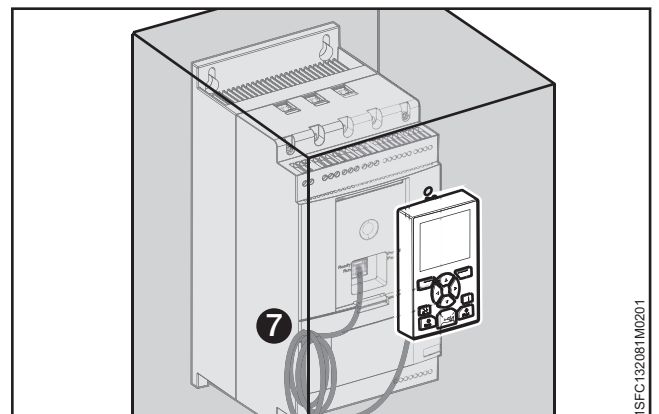

Figure 4.12
5. Make sure that the network cable is properly inserted into the 2 ports. Prevent the rest of the cable to get caught between the door, see ❼ in **Figure 4.12**. Close the door of the enclosure and set the operation voltage switch to ON. Make sure that the external HMI works.